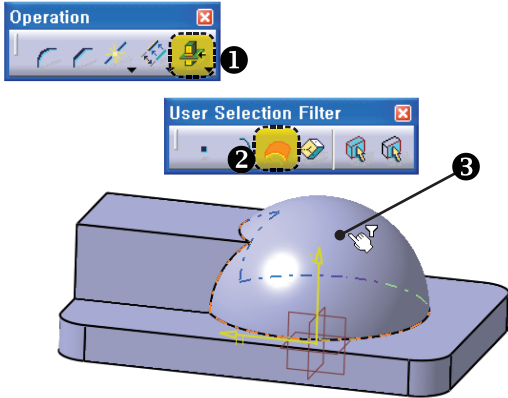

Fig 6-41 Selecting the Surface
2. Choose the **Intersect 3D Elements** button (1 in Fig 6-41) from the **Operation** toolbar.
3. Click the **Surface Filter** button (2 in Fig 6-41) from the **User Selection Filter** to turn it on.
4. Select the spherical surface (3 shown in Fig 6-41).